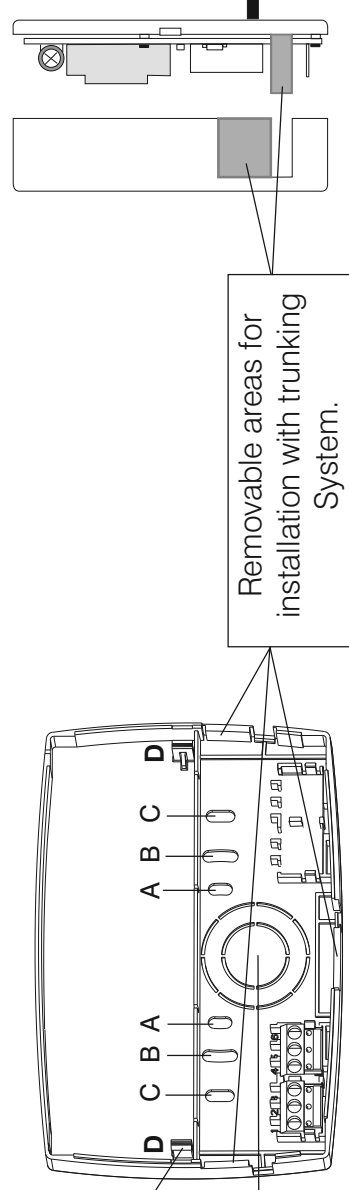

Fig. 5.i
From the base, remove the parts prepared for the passage of the connection wires shown in fig. 5.i.
- Attach the base to the wall (or built-in box), with 2 screws using the pairs of holes (**A-A, B-B, C-C**) provided (fig. 5.i).